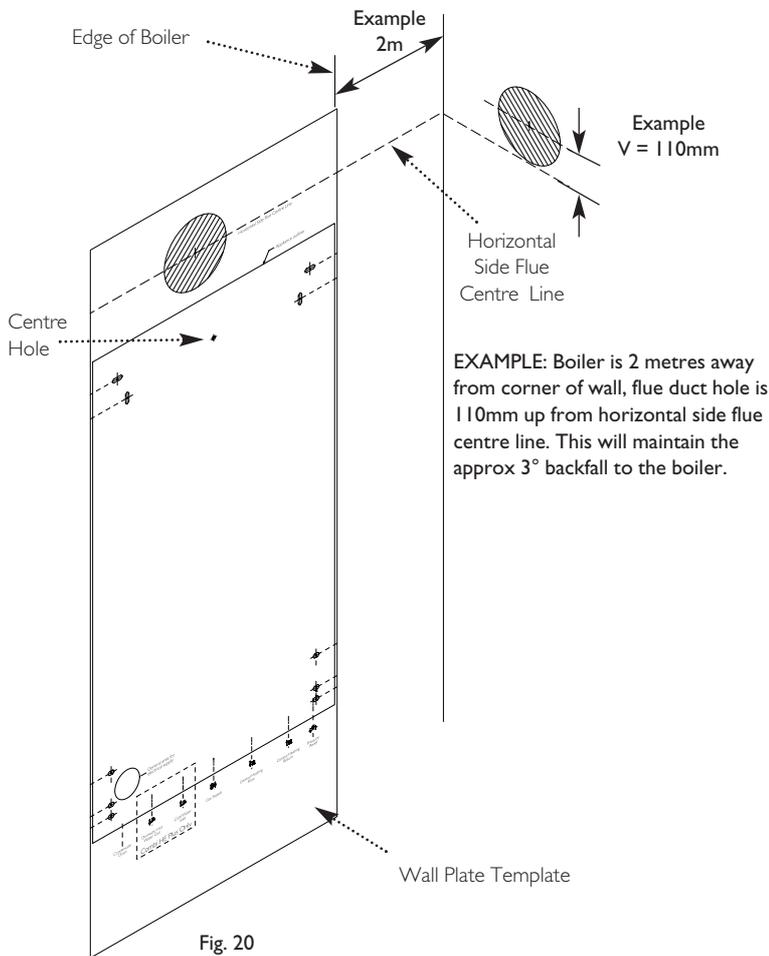

Fig. 20
1. Remove the fixing template (Fig. 20) from the fixing carton.
For side exit: project the horizontal side flue centre line into the corner of the room and along the wall to where the flue hole will be drilled (Fig. 20).